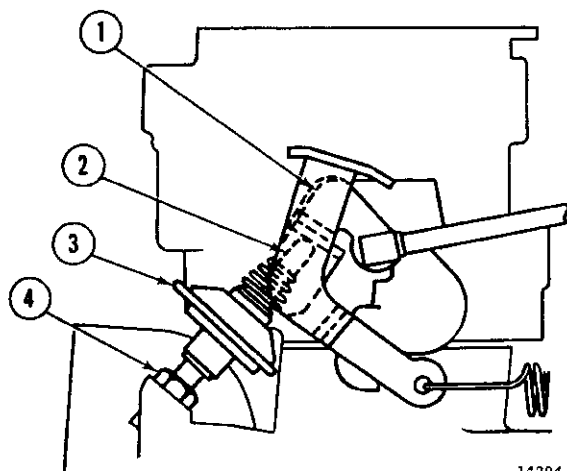

FIG. E-27—DASH POT ADJUSTMENT—V6 ENGINE
• Refer to Figs. E-27 and E-28.